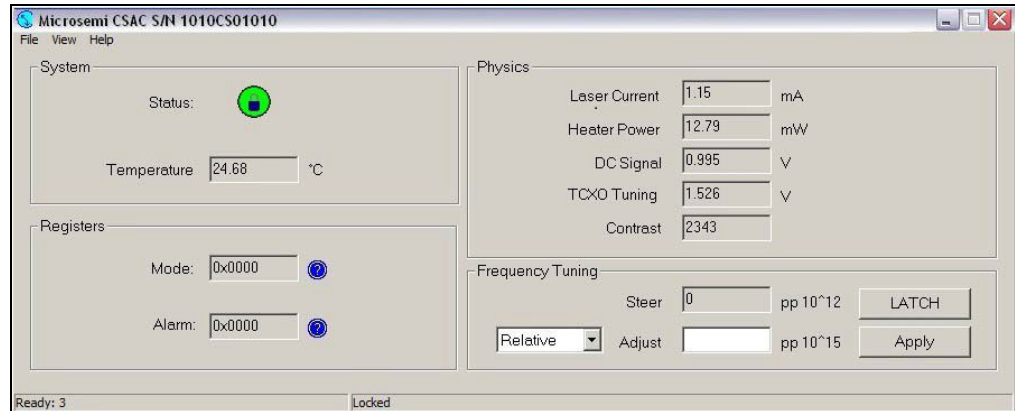

FIGURE 4-4: CSACdemo in Locked Condition.
The previous screen shot shows typical values for a normally operating CSAC. In this case, the internal case temperature of the CSAC is 24.86°C, the operating mode is 0x0000 (see **Section 3.3.3 “Set/Clear Operating Modes (M)”**) and there are no alarms. The physics package parameters in Figure 4-4 are fairly typical as well: the laser current is about 1.15 mA, the physics package heaters are drawing less than 25 mW, and the DC signal level is about 1V. The TCXO tuning is mid-range on 0V to 2.5V and the contrast is comfortably above 1000.